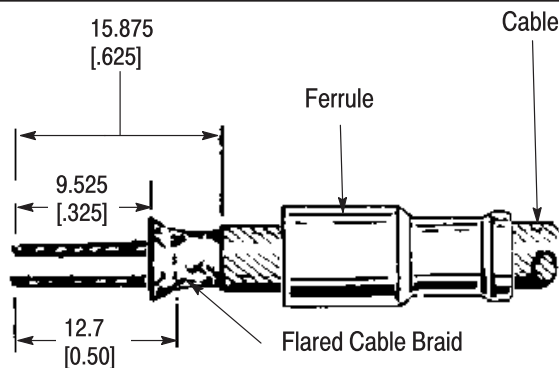

Figure 3
2. Strip the cable according to the dimensions in Figure 3.